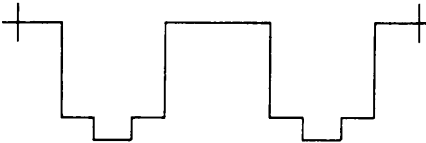

Fig 11.
- 1: Adjust L509 until the Burst signal and the Chrominance level is minimum as shown in fig. 11.
- 1: Connect the instruments as shown in fig. 11 and switch on the TV receiver.